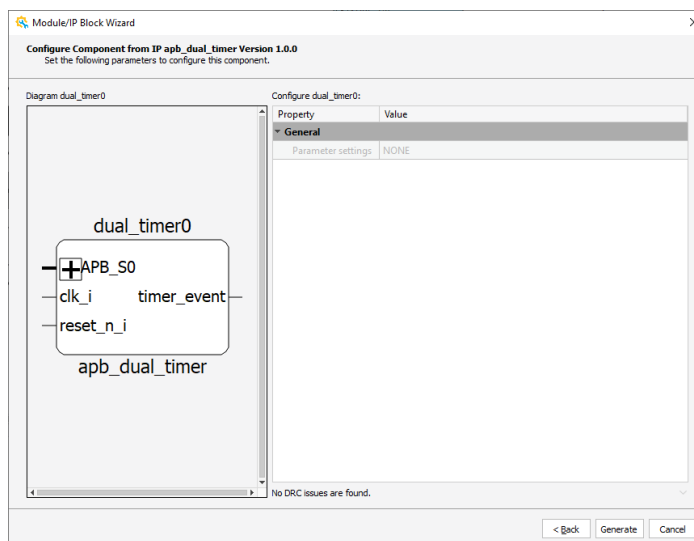

Figure 6.2. IP Configuration
2. There are no configurable items for this IP. In the next **Module/IP Block Wizard** window, click **Generate** as shown in Figure 6.2.